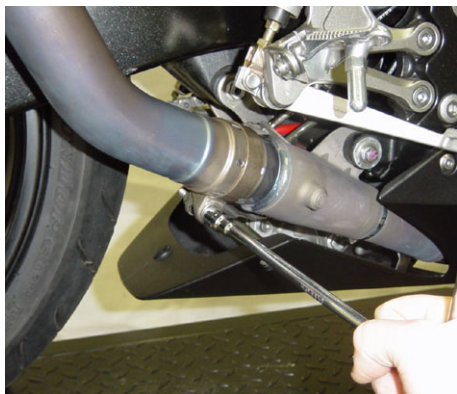

Figure 1
2. unscrew the bolt for the metal clamp on the link pipe (at the link pipe – collector joint) (Figure 1)